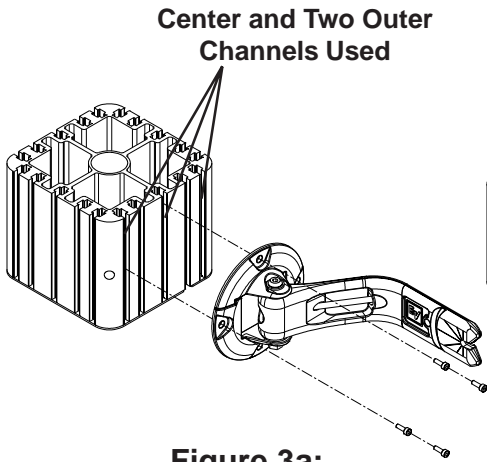
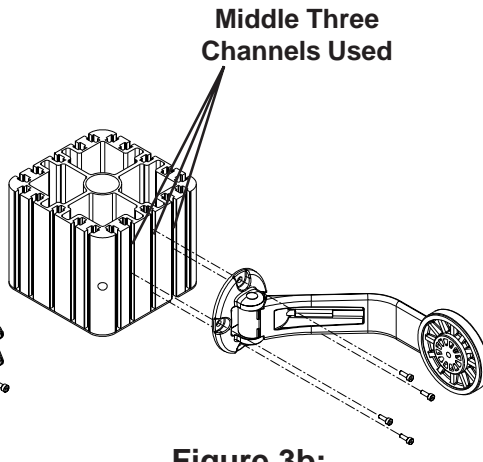
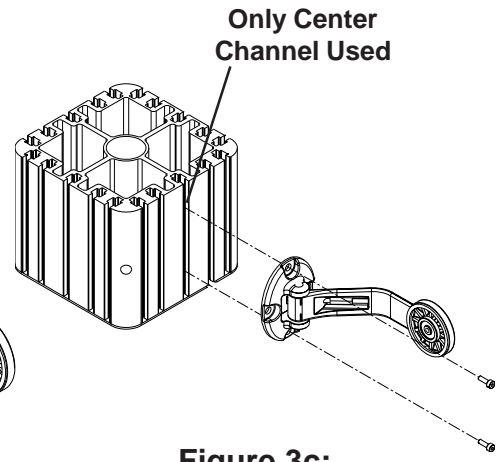

Figure 3a:
Figure 3b:
Figure 3c:
1. There are five channels on each side of the array bracket that correspond to different Strong Arm Mounts. ZX1i loudspeakers use the center channel and the two outer channels (Figure 3a), EVID 4.2 and 6.2 loudspeakers use the middle three channels (Figure 3b), and the EVID 3.2 uses the center channel only (Figure 3c).